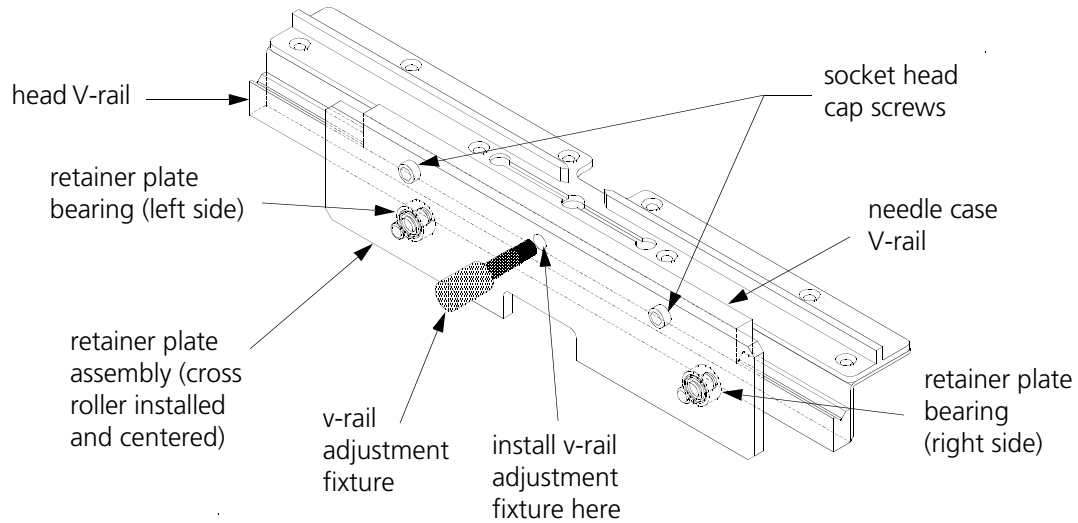

Figure 3-25
13. Loosen the two socket head cap screws holding the needle case v-rail to the retainer plate assembly as indicated in Figure 3-25.
15. Install the v-rail adjustment fixture (p/n 995675-01) into the middle front hole of the retainer plate assembly as shown in Figure 3-25.